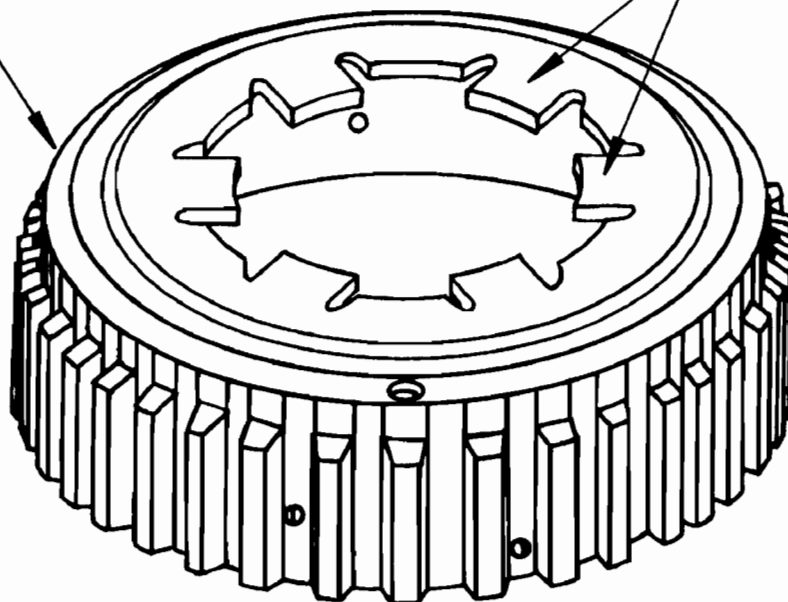

Figure 20
- (1) **FORWARD SPRAG INNER RACE** - Dimensional changes on the new design inner race, and it now fully supports the sprag end bearing on the end bearing inside diameter. Compare the previous cutaway illustration in Figure 19, with the current cutaway illustration in Figure 20.
- (2) **OVERRUN CLUTCH HUB** - Dimensional changes on the new design clutch hub, with the elimination of the raised tabs on the teeth. The back side of the clutch hub is now flat. Compare the previous clutch hub illustration in Figure 19, with the current clutch hub illustration in Figure 20.